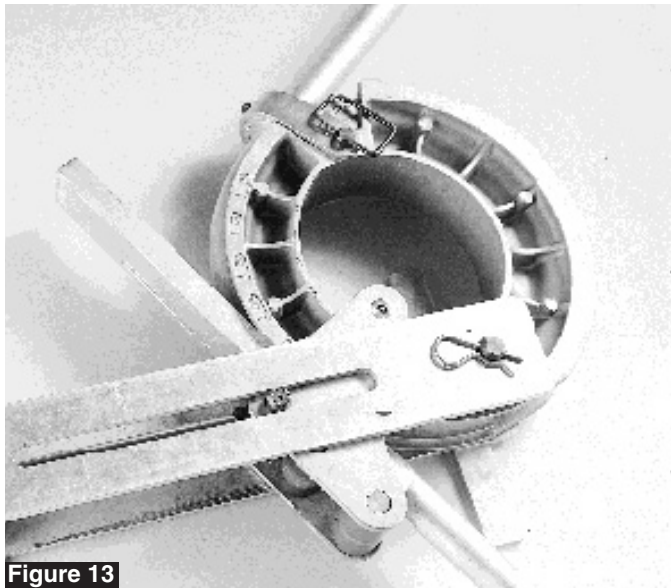

Figure 13
15. Actuate the cylinder until the desired angle of bend is achieved, as indicated by the bend angle scale on the bending shoe as it emerges from under the edge of the upper roller plate. A maximum 90° bend is obtainable on all sizes and types of conduit in one set-up with the Mini-Eegor™ (see Figure 13).